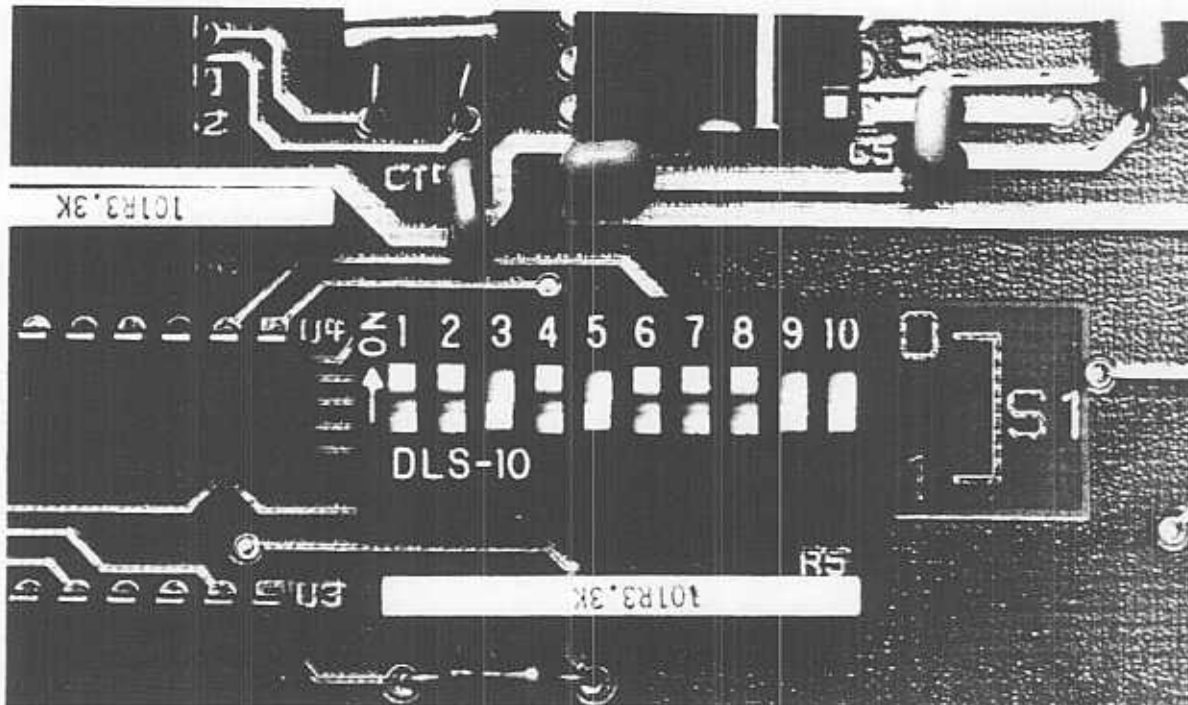

Figure 2-4. S1 Setting on the HP 82937A PCA
- a. Set the segments of S1 on the HP 82937A HP-IB Interface module PCA to non-controller, select code 6, address 20 (see figure 2-4).